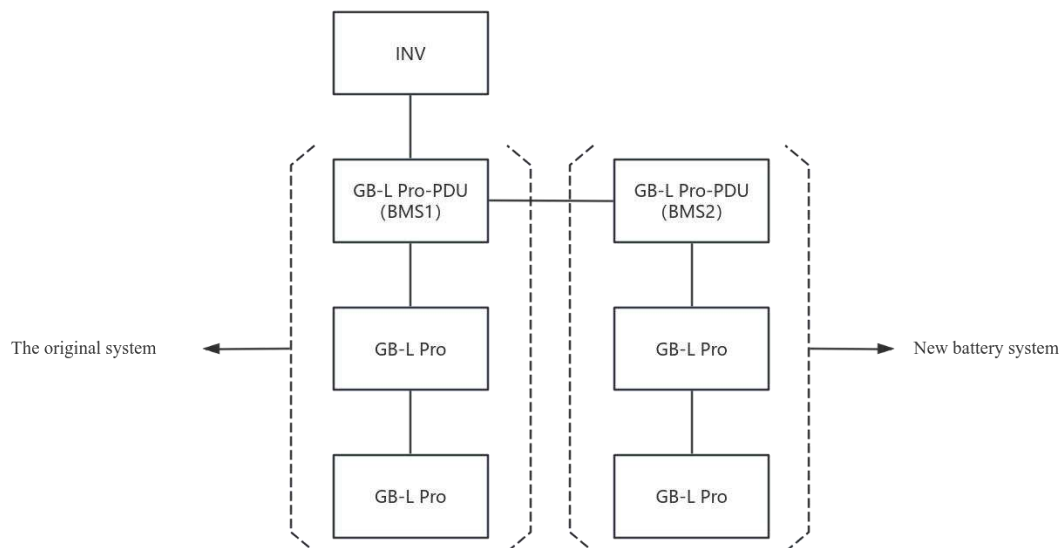

Figure2 Network diagram
Step 1: Verify the battery serial number (SN). If the manufacturing date difference between the new and old batteries is within two years, capacity extension is allowed.
Step 5: Please attach a terminal resistance to the out port of the last HV box when confronting a parallel communication issue. {The last HV box is GB-L (Pro) (BMS2) as figure 2}